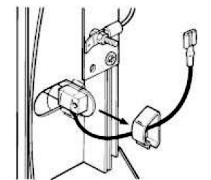

Fig. 6
5. Disconnect lamp leads from terminal plates, and remove lamp retaining clips (see Fig.6).